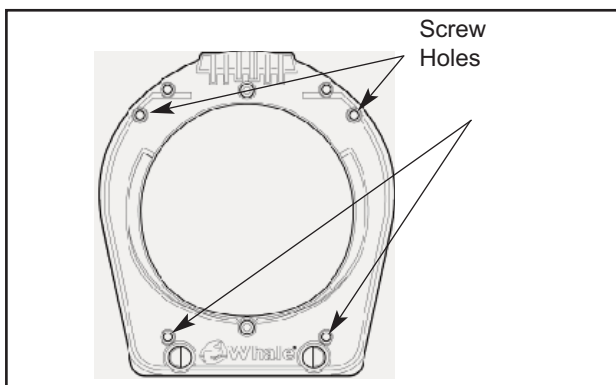

Fig.5 View Of Mounting Positions (Ommiting The Handle)
4. Open handle and mark the position of the 4 fixing screw holes on the bulkhead (see fig.5). **Note** – The pump **must be** installed using 4 screws.